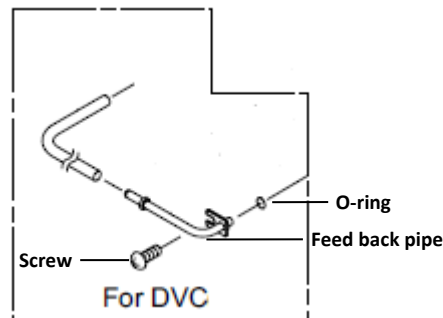

FIGURE 3
- 8) **FOR NR981-DVC/NC1991-DVC/GQ-2857WX-FFA US/GQ-2857WZ-FFA US ONLY:** Remove screw, feed back pipe, and o-ring from the gas valve (Figure 3). **This will be reinstalled on the new manifold plate.**